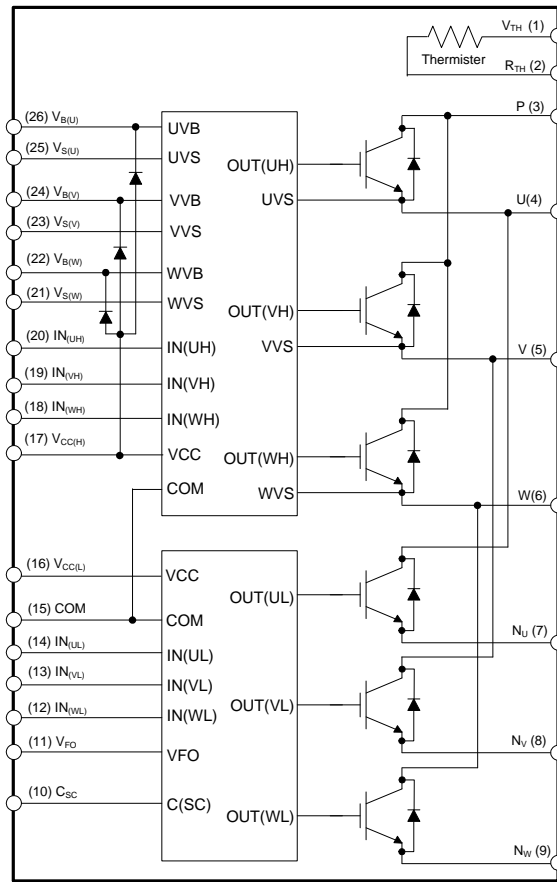

Figure 3. Internal Block Diagram
- 600 V - 10 A IGBT inverter for three-phase DC/ AC power conversion (please refer to Figure 3)